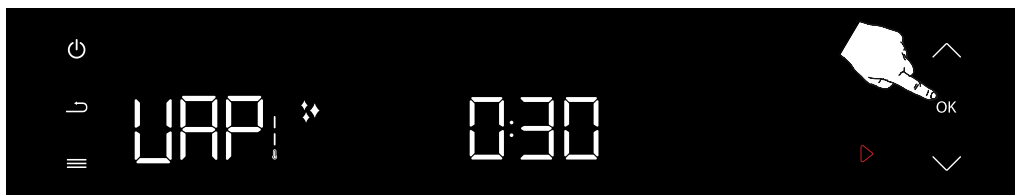

Figure 33
After confirming the selection, press and hold the confirm button (OK) to start the steam cleaning function. (see figure 33)